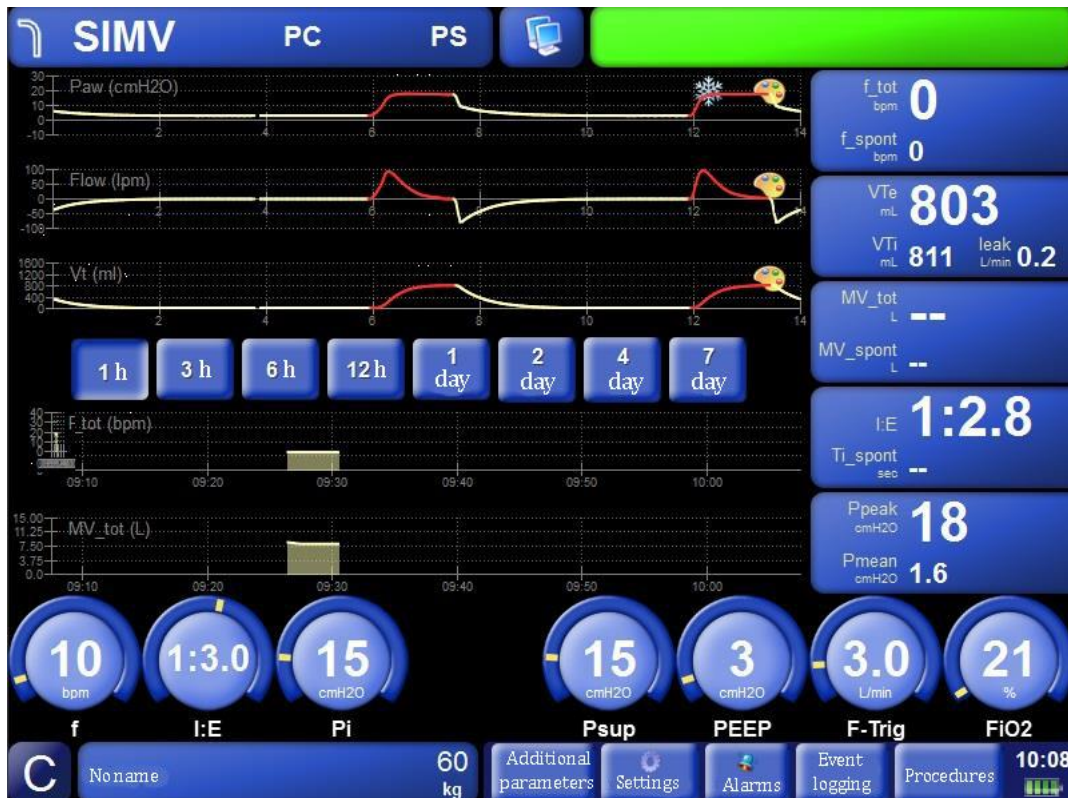

Figure 10.17 – “Multiscreen – curves, graphical trends”
- Curves, trends (Figure 10.17).